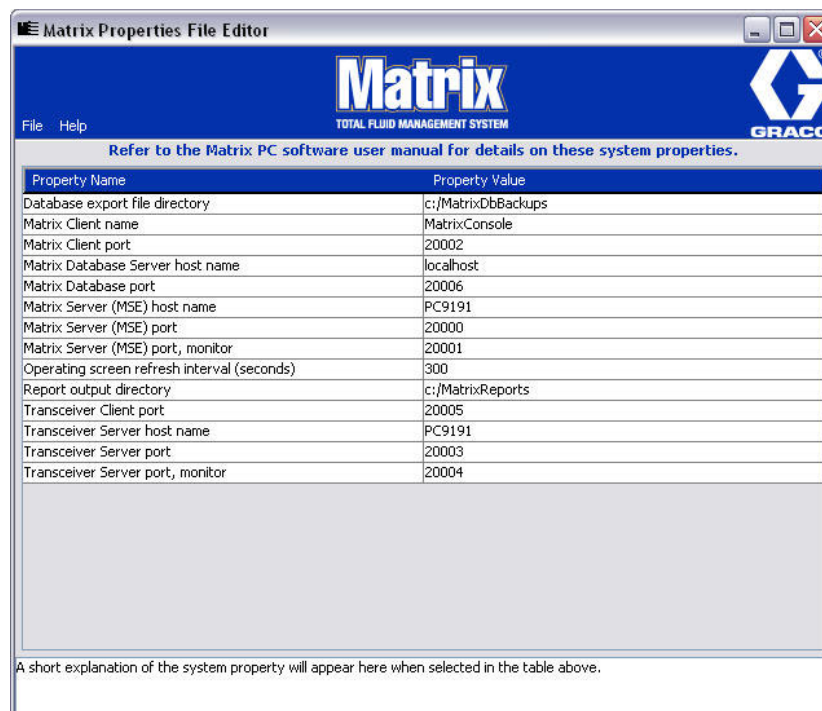

FIG. 23
2. The editor appears as a two-column list of system properties, with property names on the left and their editable values on the right (FIG. 23). When you select a property by clicking on it, the bottom panel of the screen shows basic information about that property.